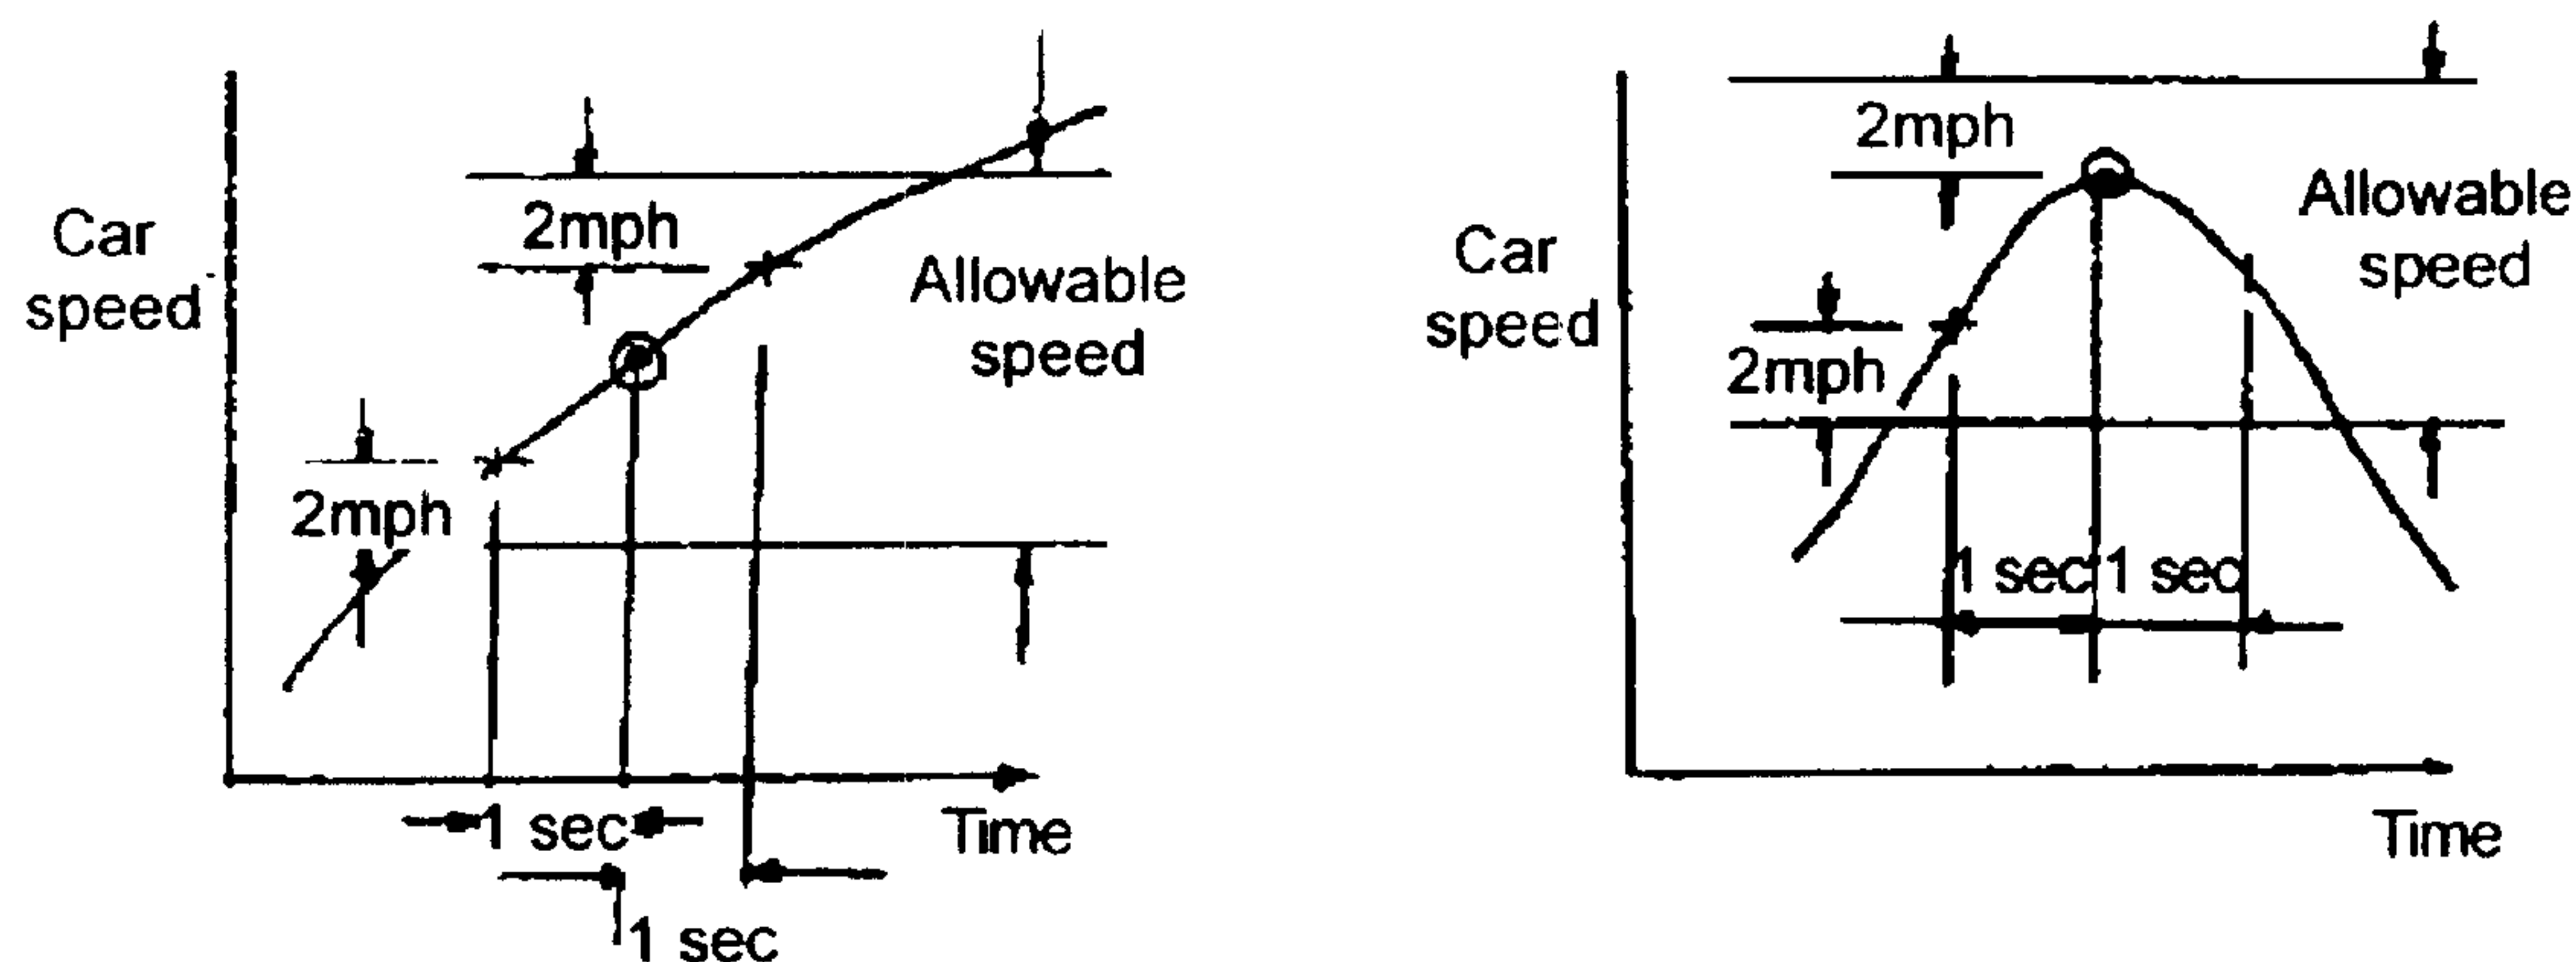

Figure 1 : Allowable speed range during mode driving
- (5) According to the direction of driver's aid, drive the car with the mode of UDDS (Urban Dynamometer Driving Schedule) and HWFET (Highway Fuel Economy Test Procedure) specified by EPA. Allowable speed range during driving shall be between maximum speed (in the interval of 1 second before and after the corresponding point) + 2mph and minimum speed (in the same range as above) - 2mph. In case that car speed is out of allowable speed range due to shifting of manual transmission gear, sudden braking, engine misfire and stumbling, the interval must be within 2 seconds. Allowable speed range is diagrammatized in following Figure 1.
- (6) Gear shifting point in course of mode driving must be programmed into the driver's aid. And in case of UDDS, shift gear down at the time of 187 seconds and 840 seconds only if this times are marked on the mode or downshift is determinately required in order to prevent engine from stopping. When carrying out downshift in